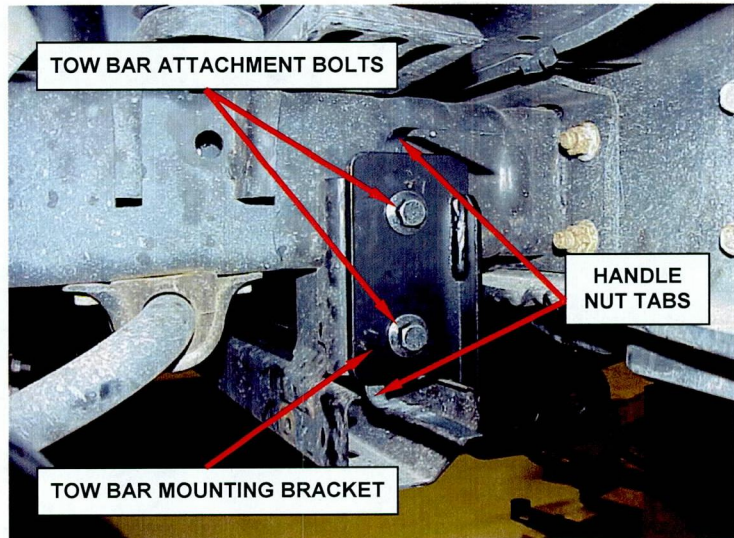

Figure 7 – Tow Bar Mounting Brackets To Frame
- c. Loosely assemble the tow bar mounting brackets to the right and left side of the frame using the handle nuts and attachment bolts with spacers (Figure 7).
CAUTION: The spacers must be centered in both the frame and bracket holes. The spacers are properly centered when there is no gap between the tow bar mounting bracket and the frame or between the head of the bolt and the face of the tow bar mounting bracket (Figure 7).